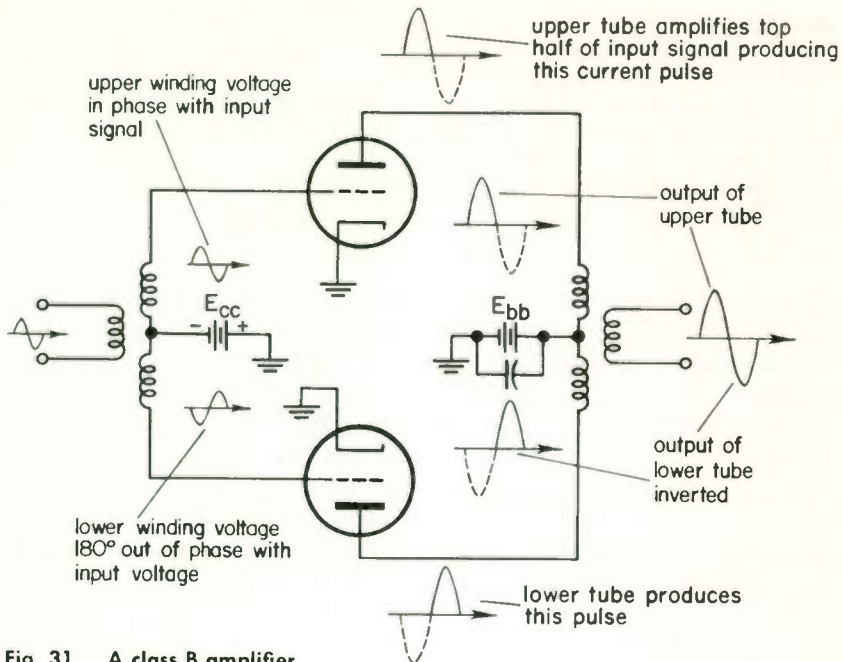

Fig. 31 A class B amplifier.
A common push-pull circuit for class B operation is shown in Fig. 31. Transformers are used in both input and output circuits to separate
3. Draw a nonselective push-pull amplifier with parallel-fed plate and grid circuits. Remember you must furnish plate voltage and grid bias to both tubes. Check the a-c and d-c paths to make sure your circuit is electrically equivalent to the circuit of Fig. 31.
2. See Fig. 31.